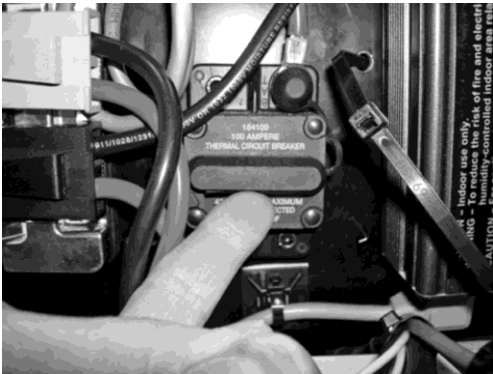

Figure 7. Location of the Circuit Breaker
2. Locate the circuit breaker between the battery charger and drive control unit (Figure 7). It is attached to the positive (+) terminal of the battery bank.